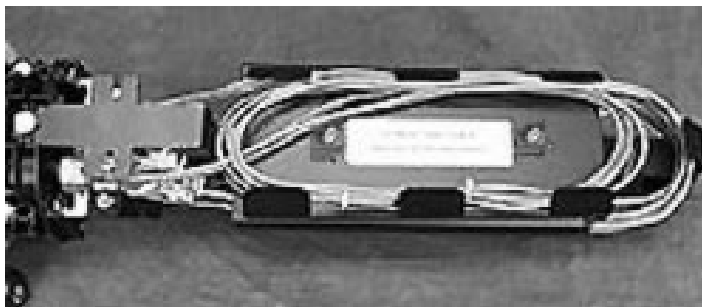

Figure 17
- Step 3:** Loop buffer tube slack in the slack basket (Figure 17).